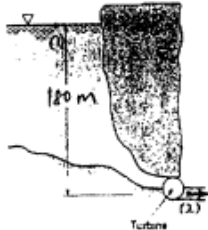

FIGURE P5.115
5.115 The hydroelectric turbine shown in Fig. P5.115 passes 500 kL/s across a head of 180 m. What is the maximum amount of power output possible? Why will the actual amount be less?